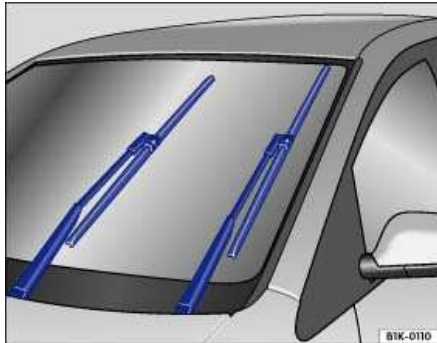

Fig. 13 Windshield wiper blades in service position.
- Within 10 seconds of switching off the ignition, push the windshield wiper lever down to the brief wiping position. The wipers will move up and stop in the *service position* ⇒ Fig. 13.